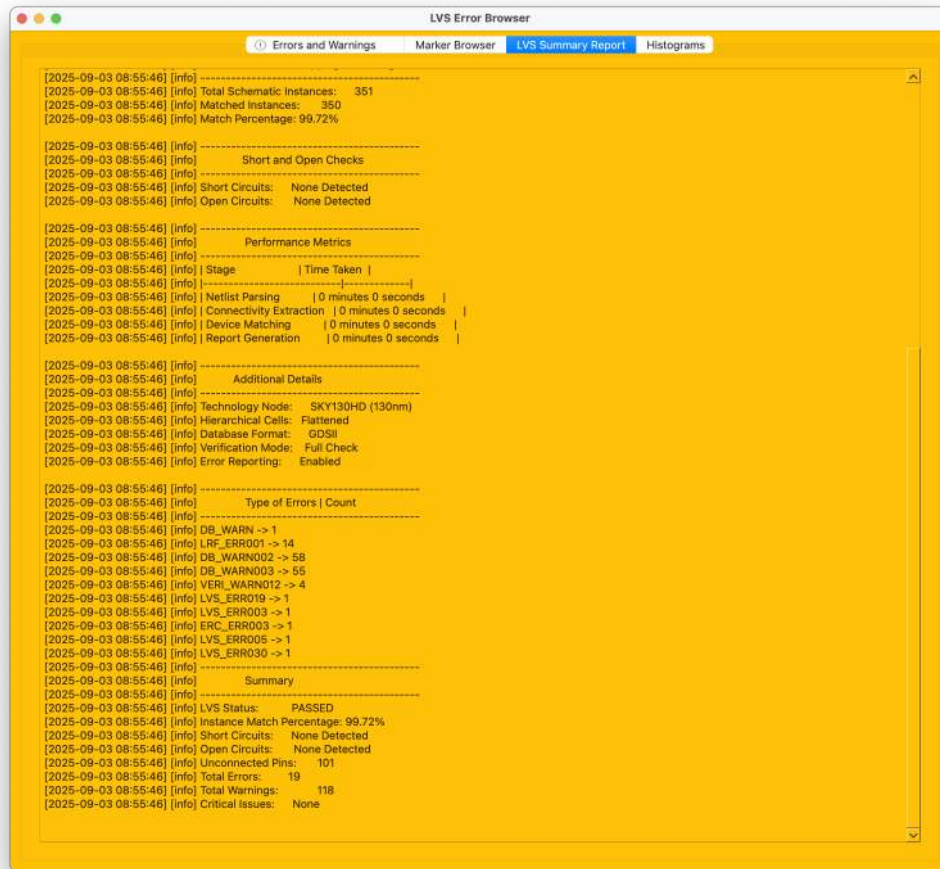

Figure 63: gcd1_LVS017 summary: run metadata, technology, and counts; shorts/opens show none global, while unconnected pins reflects the C1 issue.
10. Image description (Summary Report). Figure 63 captures the overall metrics (node, database, verification mode) and the tallies. Even when global “Short Circuits” and “Open Circuits” are none, LVS still reports the specific unconnected pin, which is the actionable detail for this testcase.